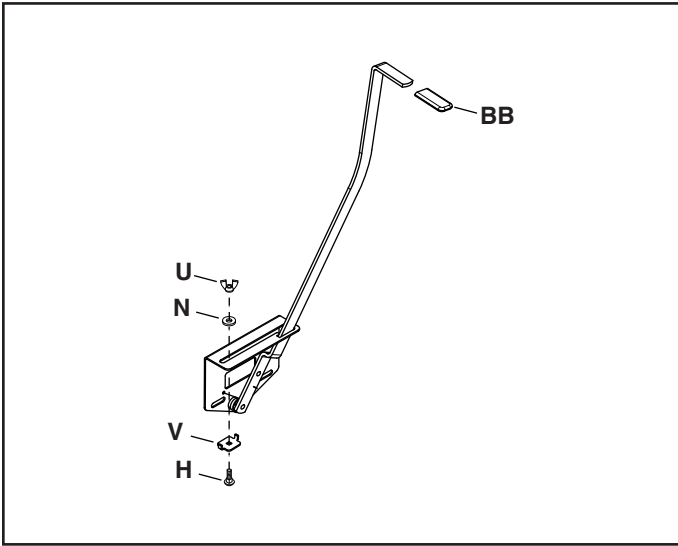

FIGURE 9
STEP 9: (SEE FIGURE 9)
- Install the grip (BB) onto the flow control arm.
- Assemble the adjustable stop (V) to the flow control bracket using the 1/4" x 3/4" carriage bolt (H), nylon washer (N) and wing nut (U).